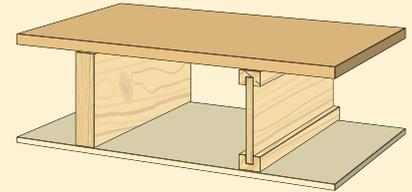
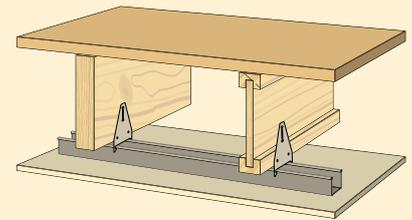
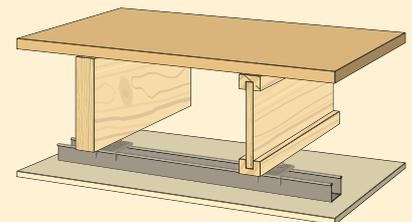

Figure 9: Floor System A
Figure 10: Floor System B
Figure 11: Floor System C
**The Building Code of Australia (BCA) only regulates sound performance for residential units that are connected to each other. In single family dwellings there are no regulated sound performance. The difference in sound performance of some typical residential dwellings can be seen when comparing Figure 9, Figure 10 and Figure 11 on page 26.**